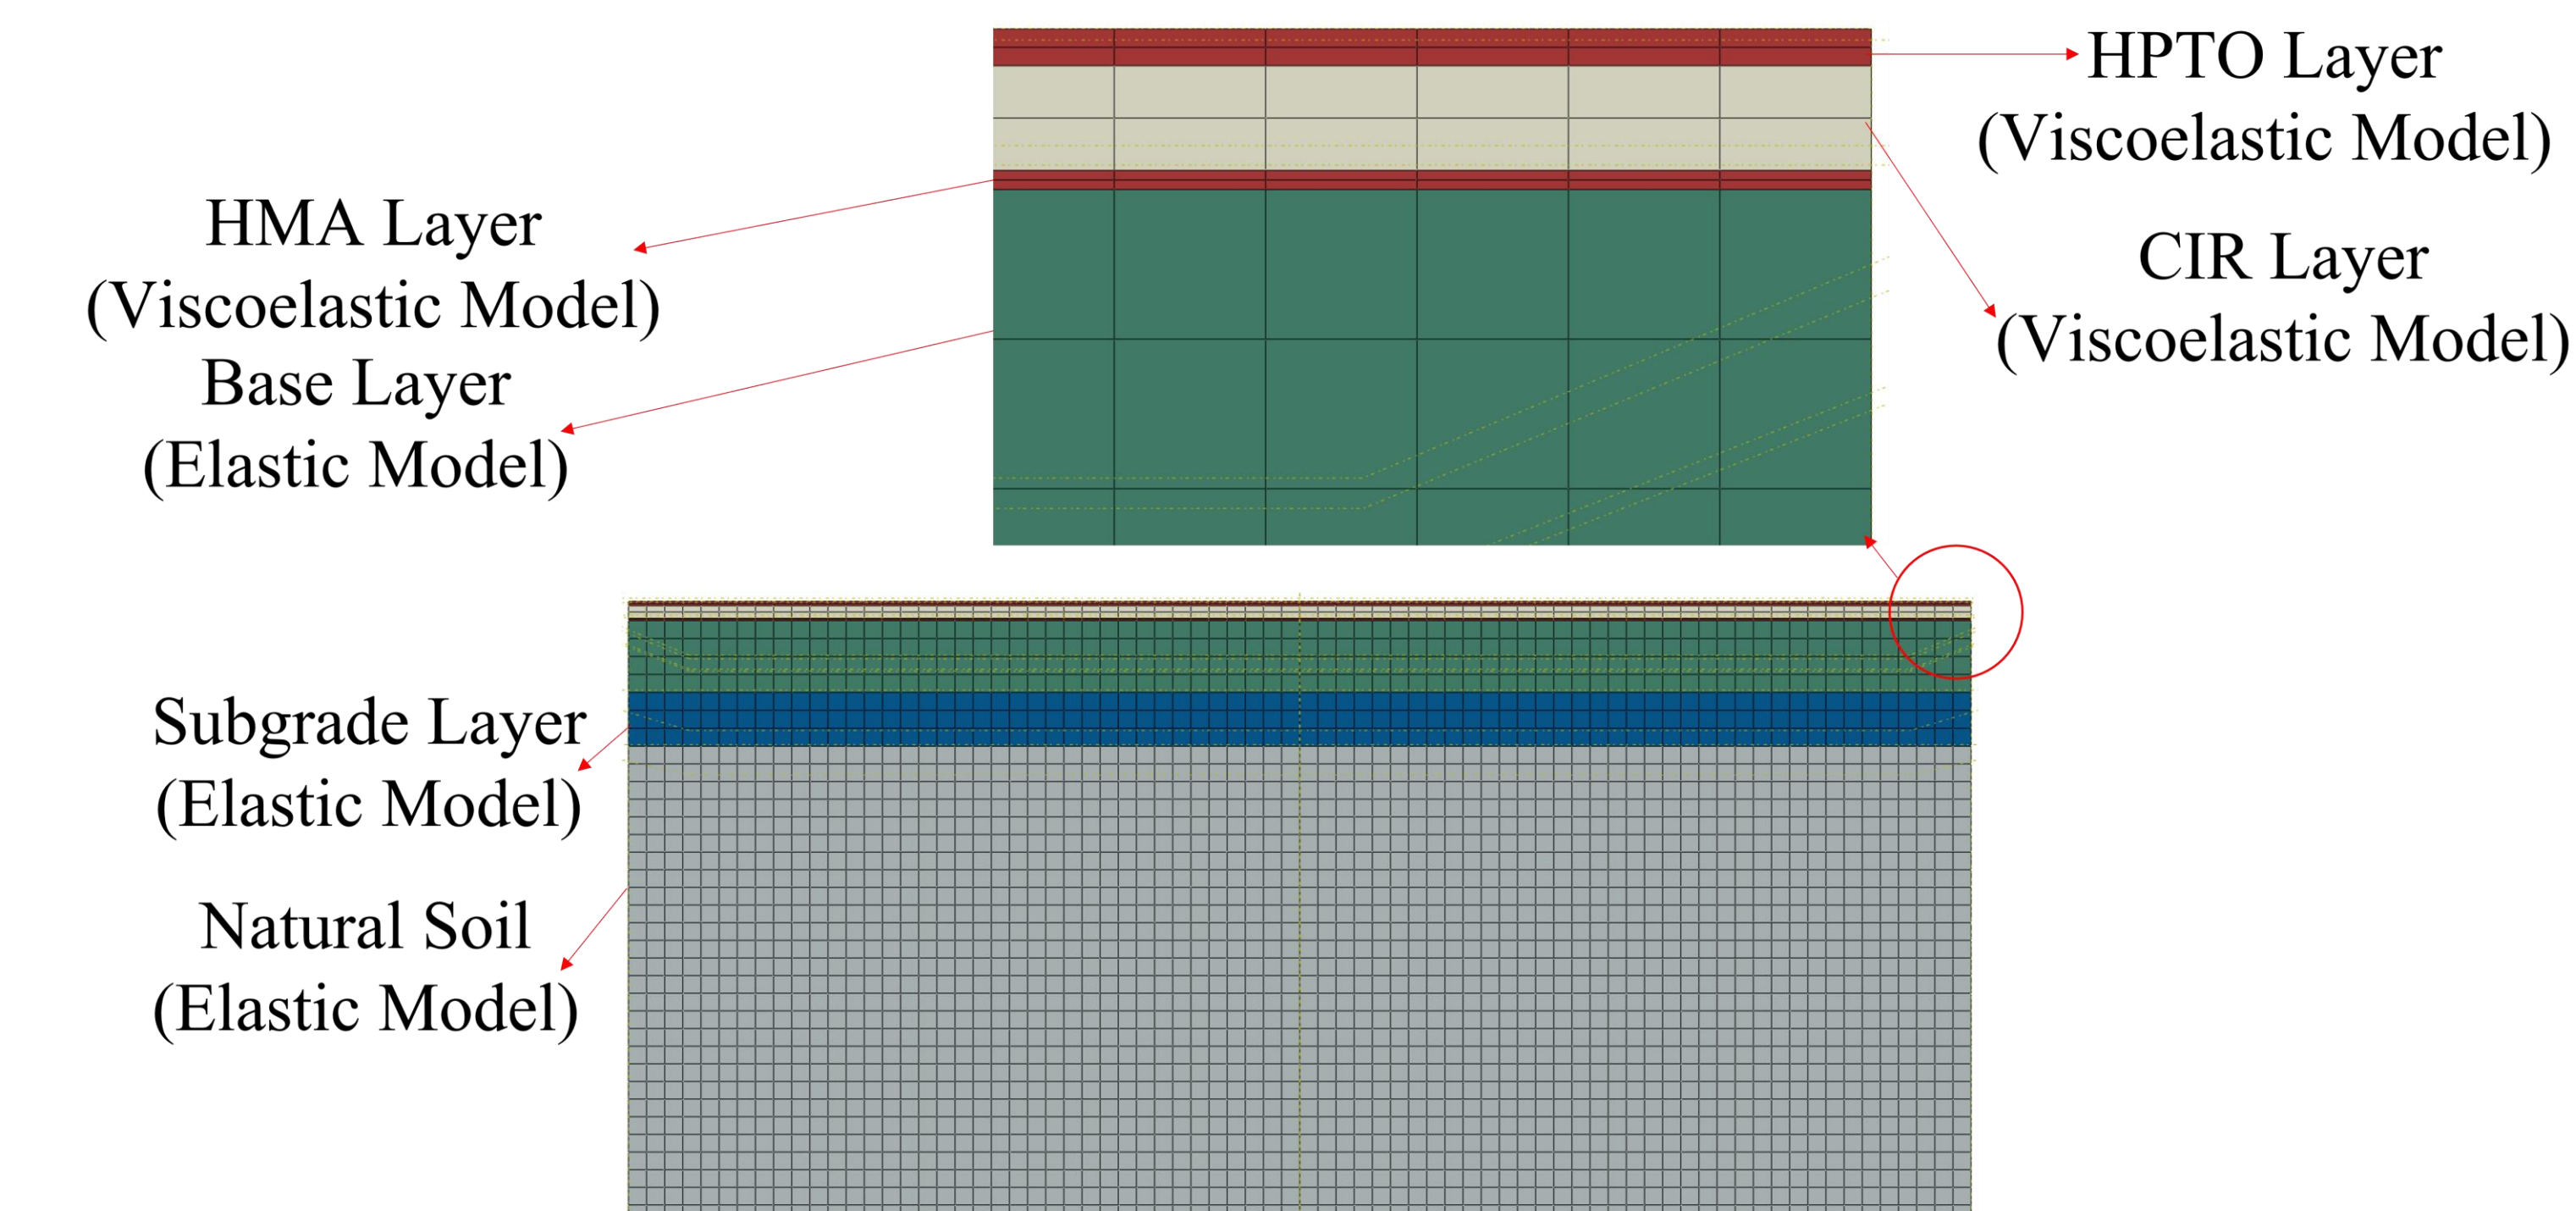

Figure 6: FEM model structure in HWD and HVS tests
- ❑ As shown in Figure 6, the HPTO, CIR and HMA layers are assigned with viscoelastic model; base, subgrade and soil layers are assigned with elastic model in HVS test.